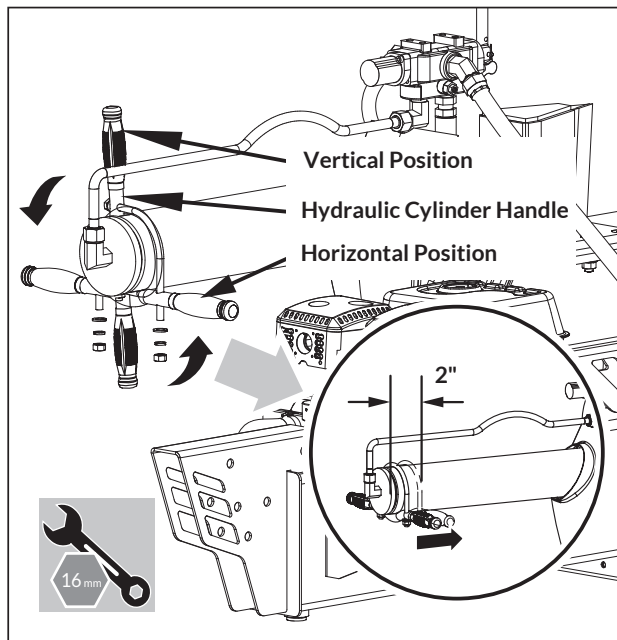

Figure 4
2. Insert the U shape hoop into the handle vertically. Then turn them to the horizontal position. Keep the hoop around 2" away from the end of the cylinder. Secure them with the flat washers, spring washers and nuts by using a 16mm wrench. (See Figure 4.)